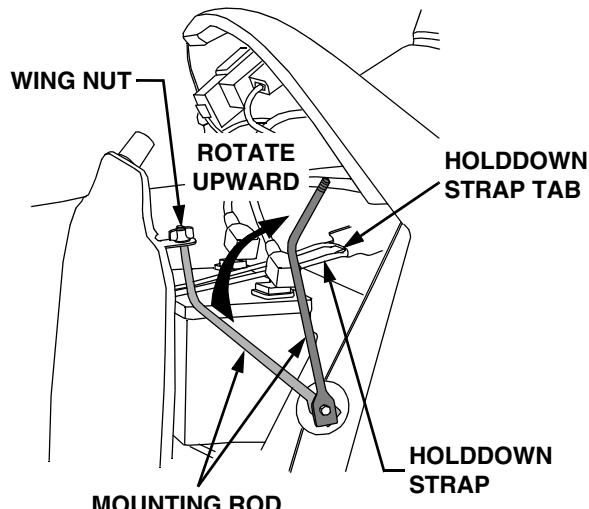

Figure 26
2. Remove the wing nut securing the LH mounting rod to the mounting tab on the left side of the bulkhead (See Figure 26). Pull the rod downward from the bulkhead tab.
3. Rotate the mounting rod fully upward toward the dash panel to provide clearance for battery removal (See Figure 26).
10. Rotate the mounting rod downward and insert through the bottom of the hole in the bulkhead mounting tab (Refer to Figure 26).